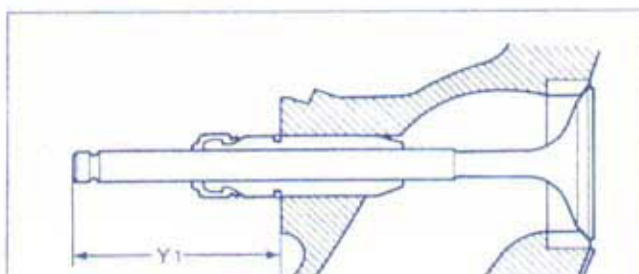

Fig.1
- Set the valve to the cylinder head, and measure the length Y₁, as shown in the Fig.1.